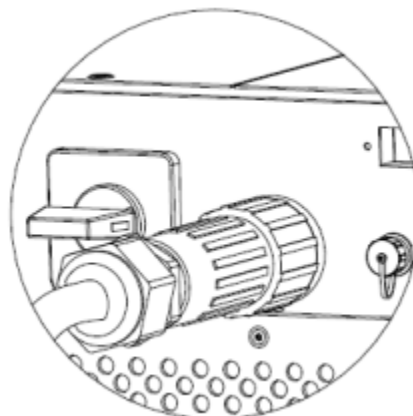

Fig.5.1.8
- 4) Connect it to the inverter as Fig.5.1.8.